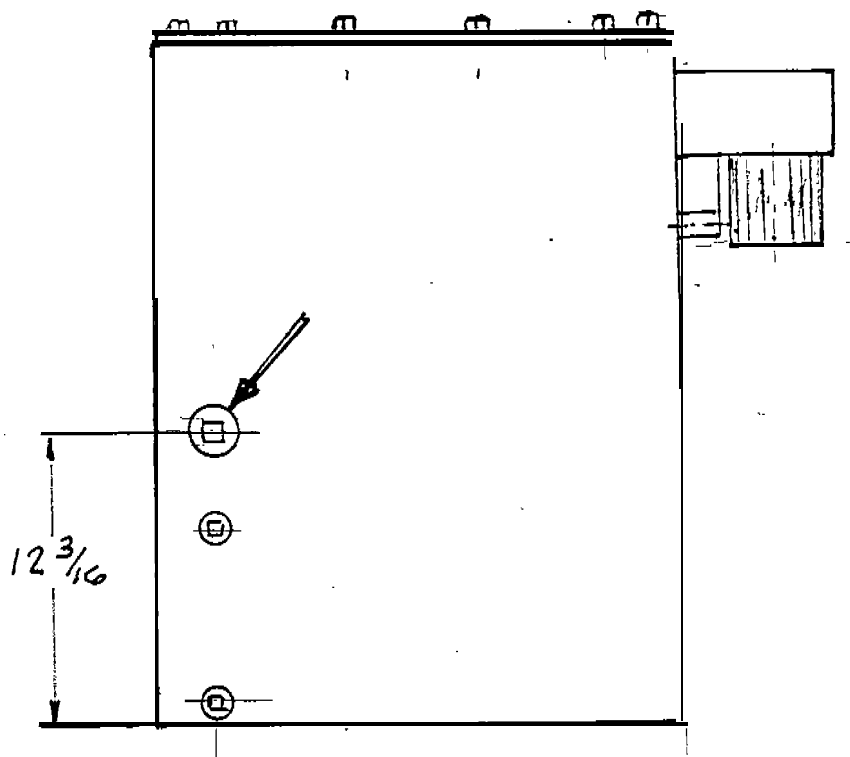

Figure 15. Location of Exhaust Conditioner Normal Operating Level Test Plug
- (WEEKLY) 29. () Test for appropriate exhaust conditioner normal operating level. Operate engine for minimum of 5 minutes. Shut engine down and remove 1 1/4 NPT plug (located 12 3/16 from outside bottom of tank). Water level should then be 2 inches below the bottom of the fill port. Checking may be accomplished by using a straight rod with a 2 1/4" portion bent 90 degrees. Location of operating level shown in Figure 15.